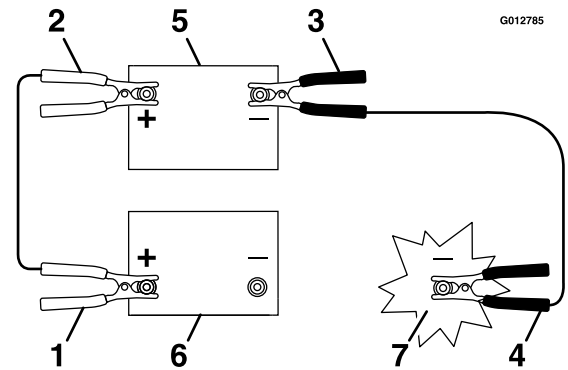

Figure 18
3. Connect the positive (+) cable to the positive (+) terminal of the discharged battery that is wired to the starter or solenoid as shown in Figure 18.